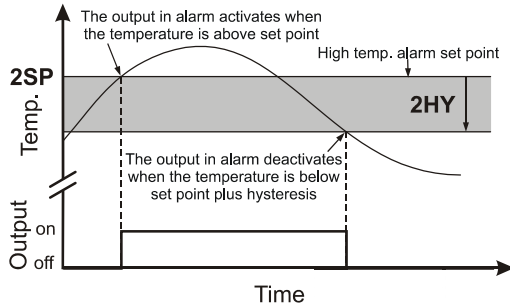
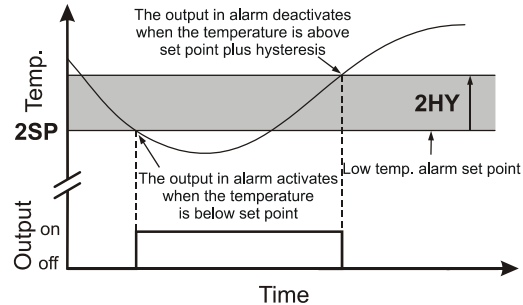

Figure 6 High temperature alarm
Figure 7 Low temperature alarm
5.6. Channel 2 in alarm. A high temperature alarm may be set in this mode by assigning a negative value (see Figure 6) to **2HY** and a low temperature alarm by assigning a positive value (see Figure 7) to **2HY**. The hysteresis indicates the amplitude of the deviation of the temperature from the set point in order to deactivate the alarm. To fix the alarm threshold, see 5.1.